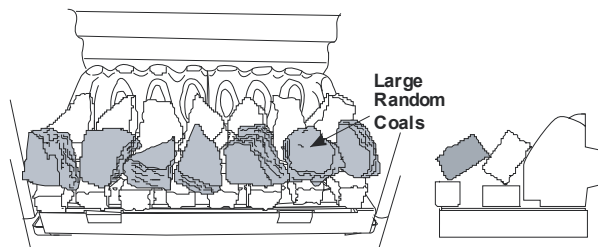
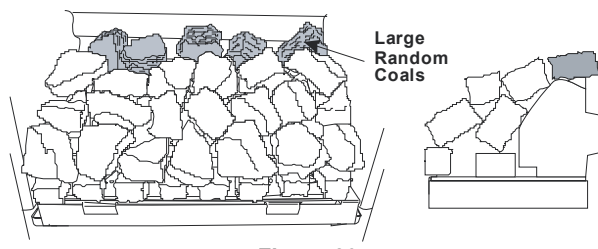

Figure 20
Figure 23
5. Continue laying the coals as shown in **Figure 20** to **Figure 23**, ensuring that the coals are placed 'loosely'. Packing the coals too tightly together will result in a poor flame picture. The best results come from a 'loose' fuel build.